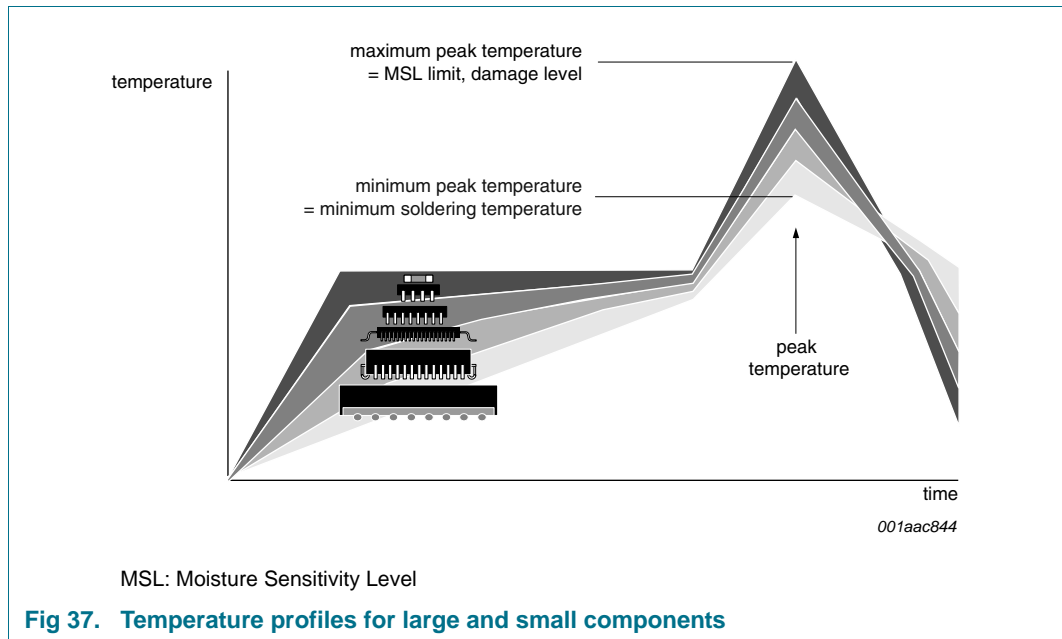

Fig 37. Temperature profiles for large and small components
- Lead-free versus SnPb soldering; note that a lead-free reflow process usually leads to higher minimum peak temperatures (see Figure 37) than a SnPb process, thus reducing the process window
Studies have shown that small packages reach higher temperatures during reflow soldering, see Figure 37.